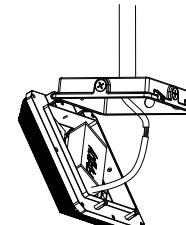

FIGURE 1-5
5. Connect the wires properly. If the fixture is equipped with sensor, adjust the sensor settings as your demand. Take relevant waterproof measures after finished wiring (Figure 1-5)